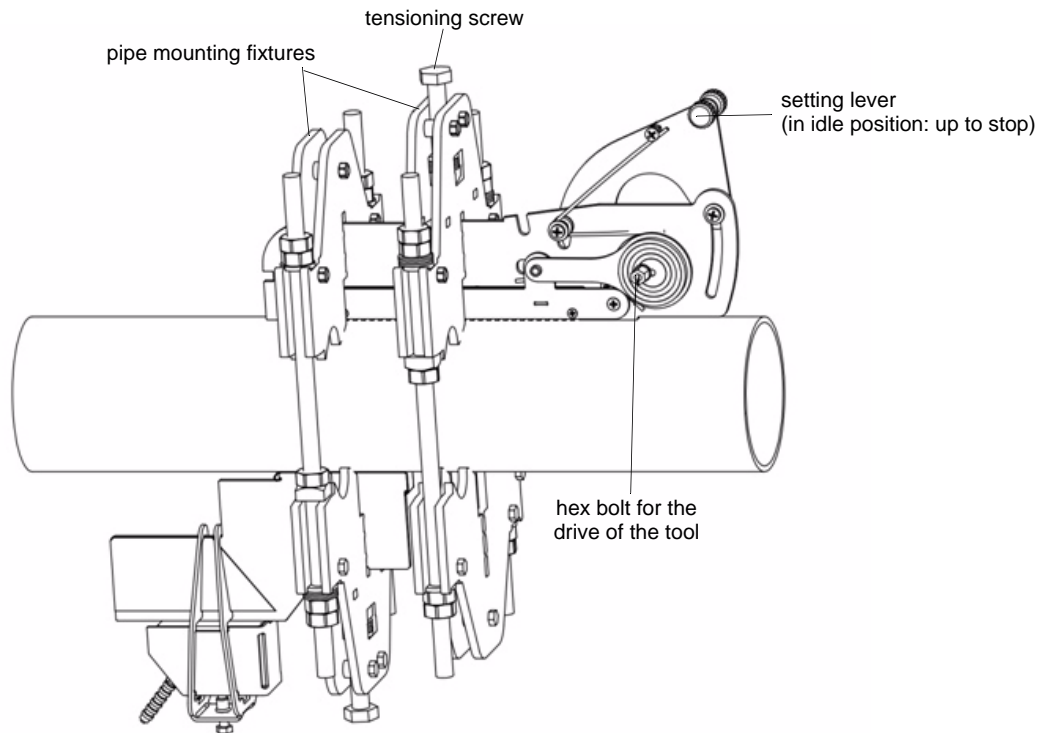

Fig. 4.2: Mounted automatic WI tool
- Push the automatic WI tool into the coupling plate apertures of the pipe mounting fixtures until the clamping surface is placed below the tensioning screw of the pipe mounting fixture. Make sure that the setting lever is in idle position when the automatic WI tool is placed on the pipe (see Fig. 4.2).